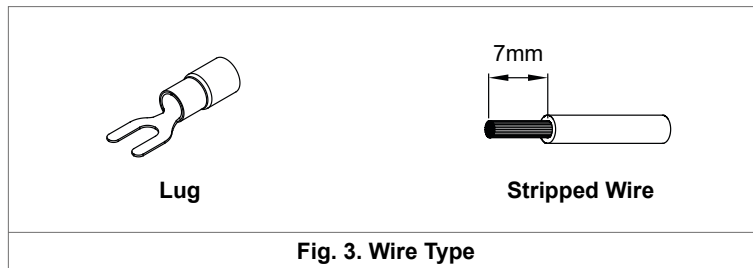

Fig. 3. Wire Type
(2) The torque at the Connector shall not exceed 13 Kgf.cm. The insulation stripping length should not exceed 0.275" or 7mm (Refer to Fig. 3).